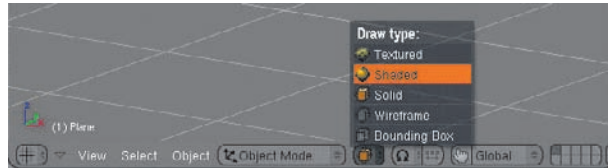
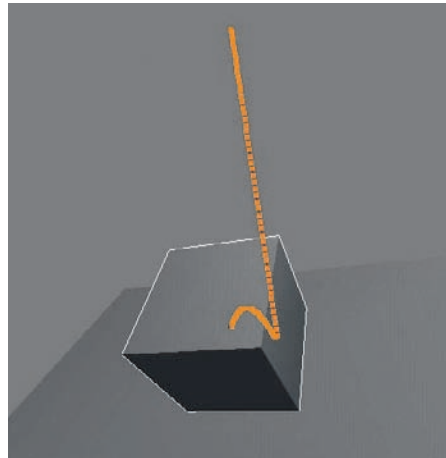

Figure 6.7 Switch to Shaded view mode.
Figure 6.8 The cube bounces against the plane.
5. Before entering Game Play mode, switch to Shaded view mode from the drop-down menu in the 3D viewport header, as shown in Figure 6.7. This isn't strictly necessary, but things will look much better in the game-play environment if you do this. After you've set this, press the P key to begin Game Play mode. You should see the cube fall and bounce against the plane, following a trajectory similar to what's shown in Figure 6.8. The angle you view this from will depend on the angle you're viewing the scene from when you press P. After the cube has come to rest, press Esc to leave Game Play mode.